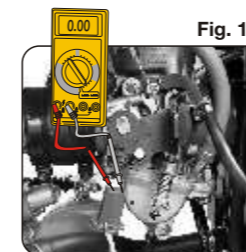

Fig. 1
- Keep throttle at zero position. (Fig. 1).